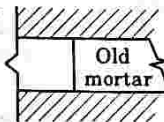

Fig. 5.20.8. Weathered pointing.
8. Weathered Pointing : In this type of pointing, a projection in the form of a Vee-shape is formed as shown in Fig. 5.20.8.